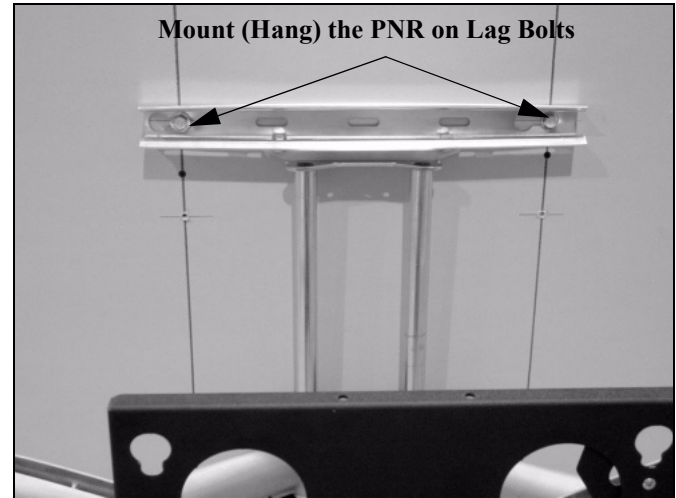

Figure 2: Mount Top Bracket
1. With an assistant, lift and hang the PNR on the two lag bolts and washers previously installed on the wall. (See figure 2).